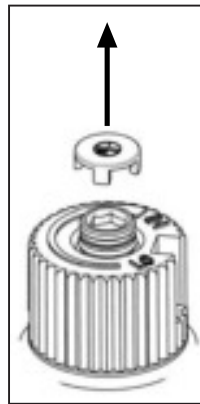

Figure 20: Removing valve cap.
- b) Remove the black protection cap from the HI/LO knob by hand shown in Figure 20.
- h) Re-attach the black protection cap that was removed in step a (Figure 20).